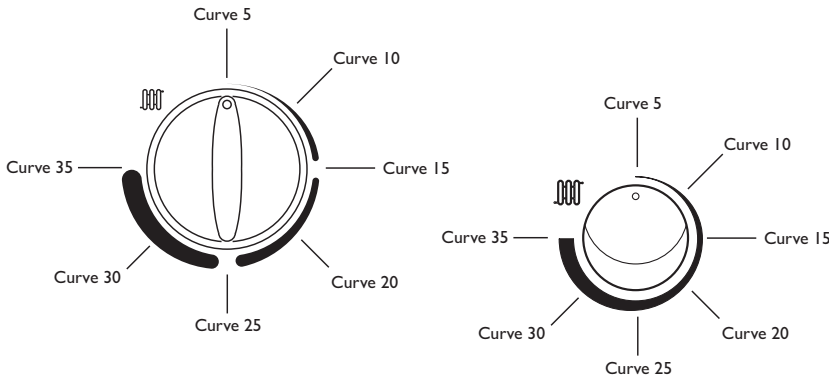

Fig. 21
2. The Central Heating Control Knob should be turned clockwise to the position in Fig. 21 which corresponds with the desired curve as shown on the graph below.